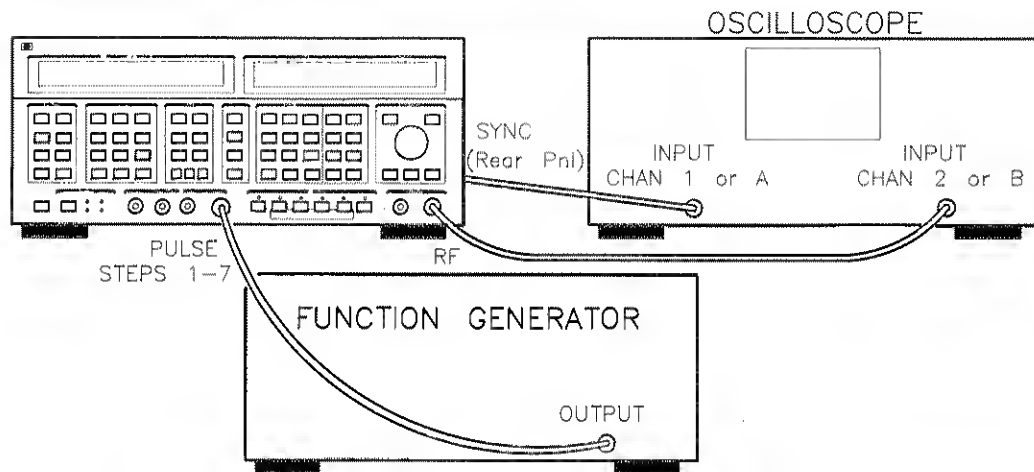

Figure 2-11. Equipment Setup for Pulse Modulation Procedure #1.
1. Connect the Signal Generator to an oscilloscope and function generator as shown in figure 2-11. Turn on the equipment, and make the following adjustments: